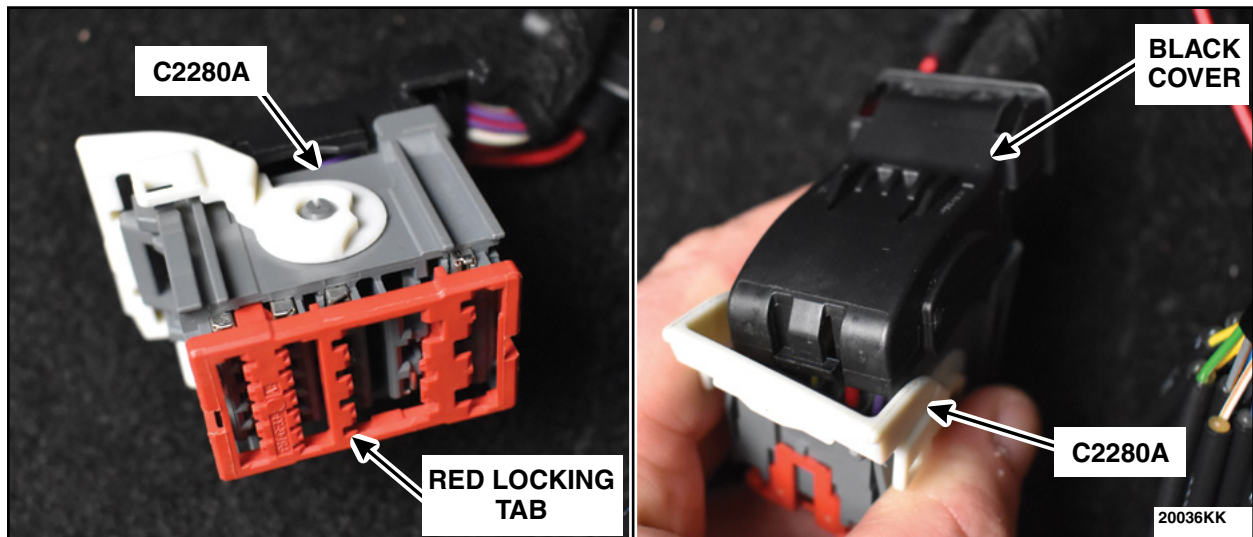

FIGURE 38
56. Remove the red locking tab and the black cover. See Figure 38.